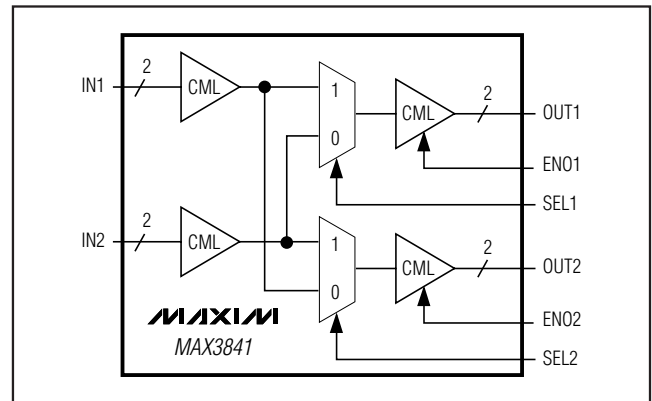

Figure 1. Functional Diagram
**Note 2:** Differential swing is defined as  $V_{IN} = (\text{IN}_+) - (\text{IN}_-)$  and  $V_{OUT} = (\text{OUT}_+) - (\text{OUT}_-)$ . See Figure 1.
The MAX3841 contains a pair of CML inputs that drive two 2:1 multiplexers, with separate select inputs SEL1 and SEL2, providing a 2 × 2 crosspoint data path. The outputs of the multiplexers each drive a high-performance CML output that can be disabled (powered down) using the ENO1/ENO2 inputs. All of the data paths are fully differential to minimize jitter, crosstalk, and signal skew. See Figure 1 for the functional diagram.